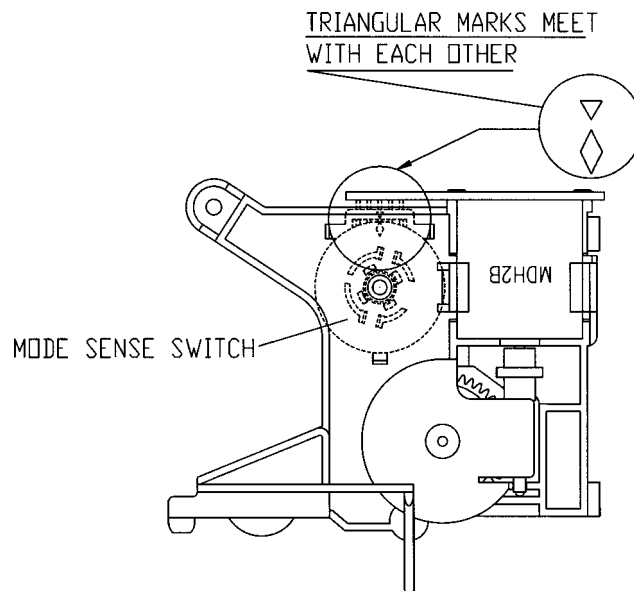

Fig. 3 Mechanical Checks/Mode Sense S/W Alignment
3. There are two (2) triangular marks on the mode sense switch. When installing the L/C bracket assembly on the main base, confirm that the two (2) triangular marks are aligned with each other in the EJECT mode. (Fig. 3)